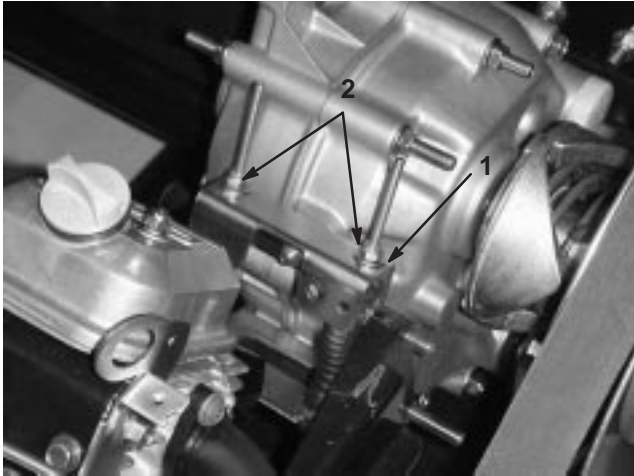

Figure 17
When performing routine maintenance and/or engine diagnostics, the transaxle must be shifted into neutral (Fig. 17). The vehicle has a neutral position on the shift lever, which controls the neutral in the transaxle. The following steps should be taken to make sure that the neutral shift lever operates the transaxle neutral correctly:
2. Set the neutral bracket on the transaxle to the neutral position (level), turn the drive clutch, and check to see if the vehicle rolls back and forth (Fig. 17).
3. Tighten one of the locknuts (Fig. 17) just enough to take the slack out of the shift cable.